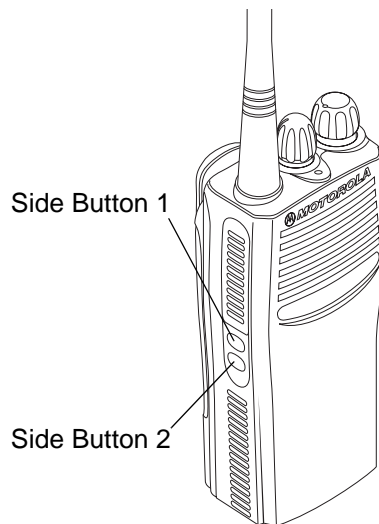

Figure 3-2 Side Button Locations
2. Within ten seconds after the self test is complete (self test tone is heard), press SB2 (Side Button 2 in Figure 3-2) five times in succession. If the self test complete tone is not heard, see Error Codes information in Section 5. Entry into the test mode is indicated by a positive indicator tone followed by a good key chirp (GKC).